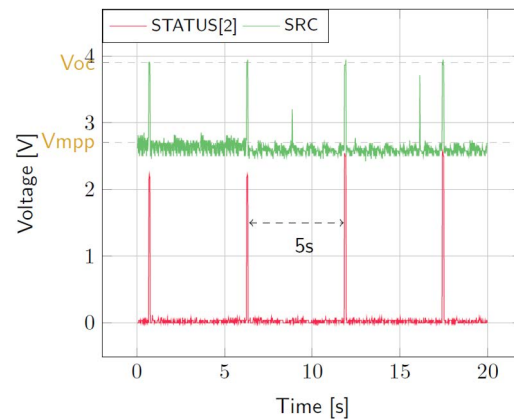

Figure 3: **SRC** and **STATUS[2]** while energy is extracted from **SRC** (**BATT** under V_{ovch})
- **SRC**: Regulated at V_{mpp} , which is a voltage equal to the open-circuit voltage (V_{oc}) times the MPP ratio of 70%. V_{src} equals V_{oc} during MPP evaluation (see Figure 3). Note that V_{src} must be higher than 380 mV to coldstart.
- **STATUS[2]**: Asserted each time the AEM10941 performs a MPP evaluation (See Figure 3).